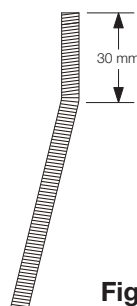

Fig. 6
b) if the motor will be fixed to the ground, bend the bars at a height of about 30 mm as indicated in Figure 6.